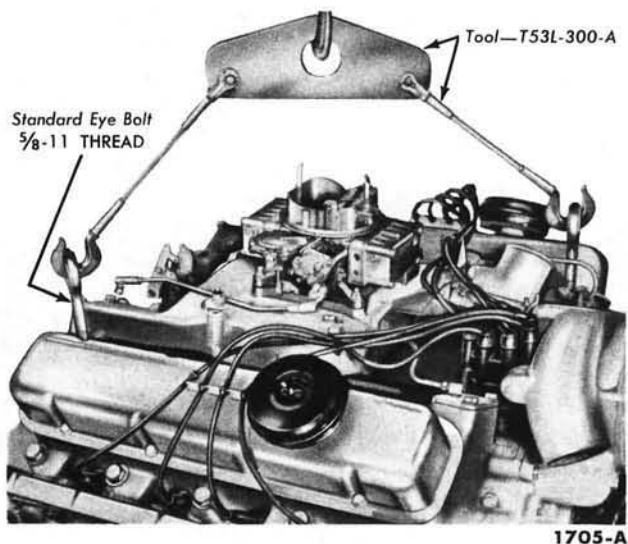
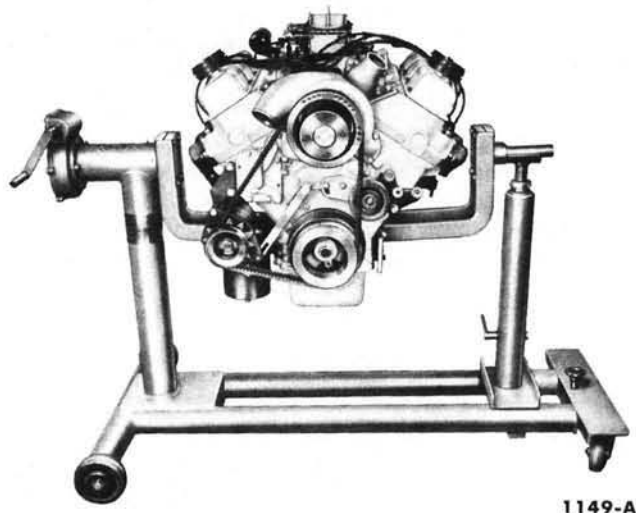

FIG. 12—Engine Lifting Sling
FIG. 13—Engine Work Stand
6. Place a jack under the front bumper at the right side and raise the right front of the truck. Remove the starter shield and starter, then lower the truck and remove the jack. Install the engine lifting eye bolts and sling (Fig. 12).
wheel to engine retaining bolts. Remove the engine from the chassis and install it on a work stand (Fig. 13).
1. Install guide pins in the two flywheel housing lower bolt holes in the engine. Place new muffler inlet pipe gaskets over the exhaust manifold studs. Attach the engine lifting eye bolts and sling (Fig. 12) and remove the engine from the work stand. Carefully lower the engine into the chassis. Make sure the exhaust manifolds are properly aligned with the muffler inlet pipes and that the guide pins in the engine block engage the holes in the flywheel housing.
7. Install the engine lifting eye bolts and sling (Fig. 12). Disconnect the muffler inlet pipes at the exhaust manifold. Remove the oil pan. Position a floor jack under the transmission with no pressure applied. Remove the flywheel housing dust cover and the flywheel to engine bolts. Disconnect the parking brake clevis pin. Disconnect the engine front mount at the frame cross member. Raise the engine approximately one inch and support the transmission with the jack. Remove the engine from the chassis and install it on a work stand (Fig. 13).
1. Install guide pins in the flywheel housing two lower bolt holes in the engine block. Place a new gasket over the exhaust manifold studs. Attach the engine lifting eye bolts and sling (Fig. 12) and remove the engine from the work stand. Carefully lower the engine into the chassis. Make sure the exhaust manifolds are properly aligned with the muffler inlet pipes and the guide pins in the engine block engage the holes in the flywheel housing.